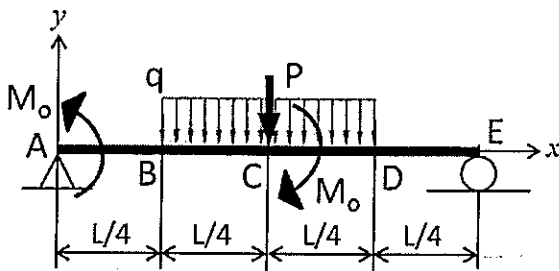
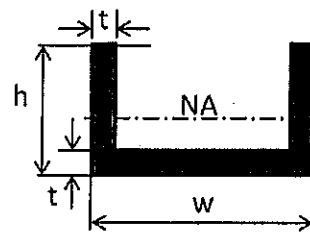

Figure 3a
Figure 3b
3. Figure 3a shows a simply supported beam ABCDE with a uniformly distributed load q between B and D, a point load P at C, and concentrated moment M_0 at A and C. Figure 3b shows the cross-section of the beam. Given: $P = 1 \text{ kN}$, $M_0 = 1 \text{ kNm}$, $q = 3 \text{ kN/m}$, $L = 2 \text{ m}$, $w = 100 \text{ mm}$, $h = 60 \text{ mm}$ and $t = 10 \text{ mm}$.